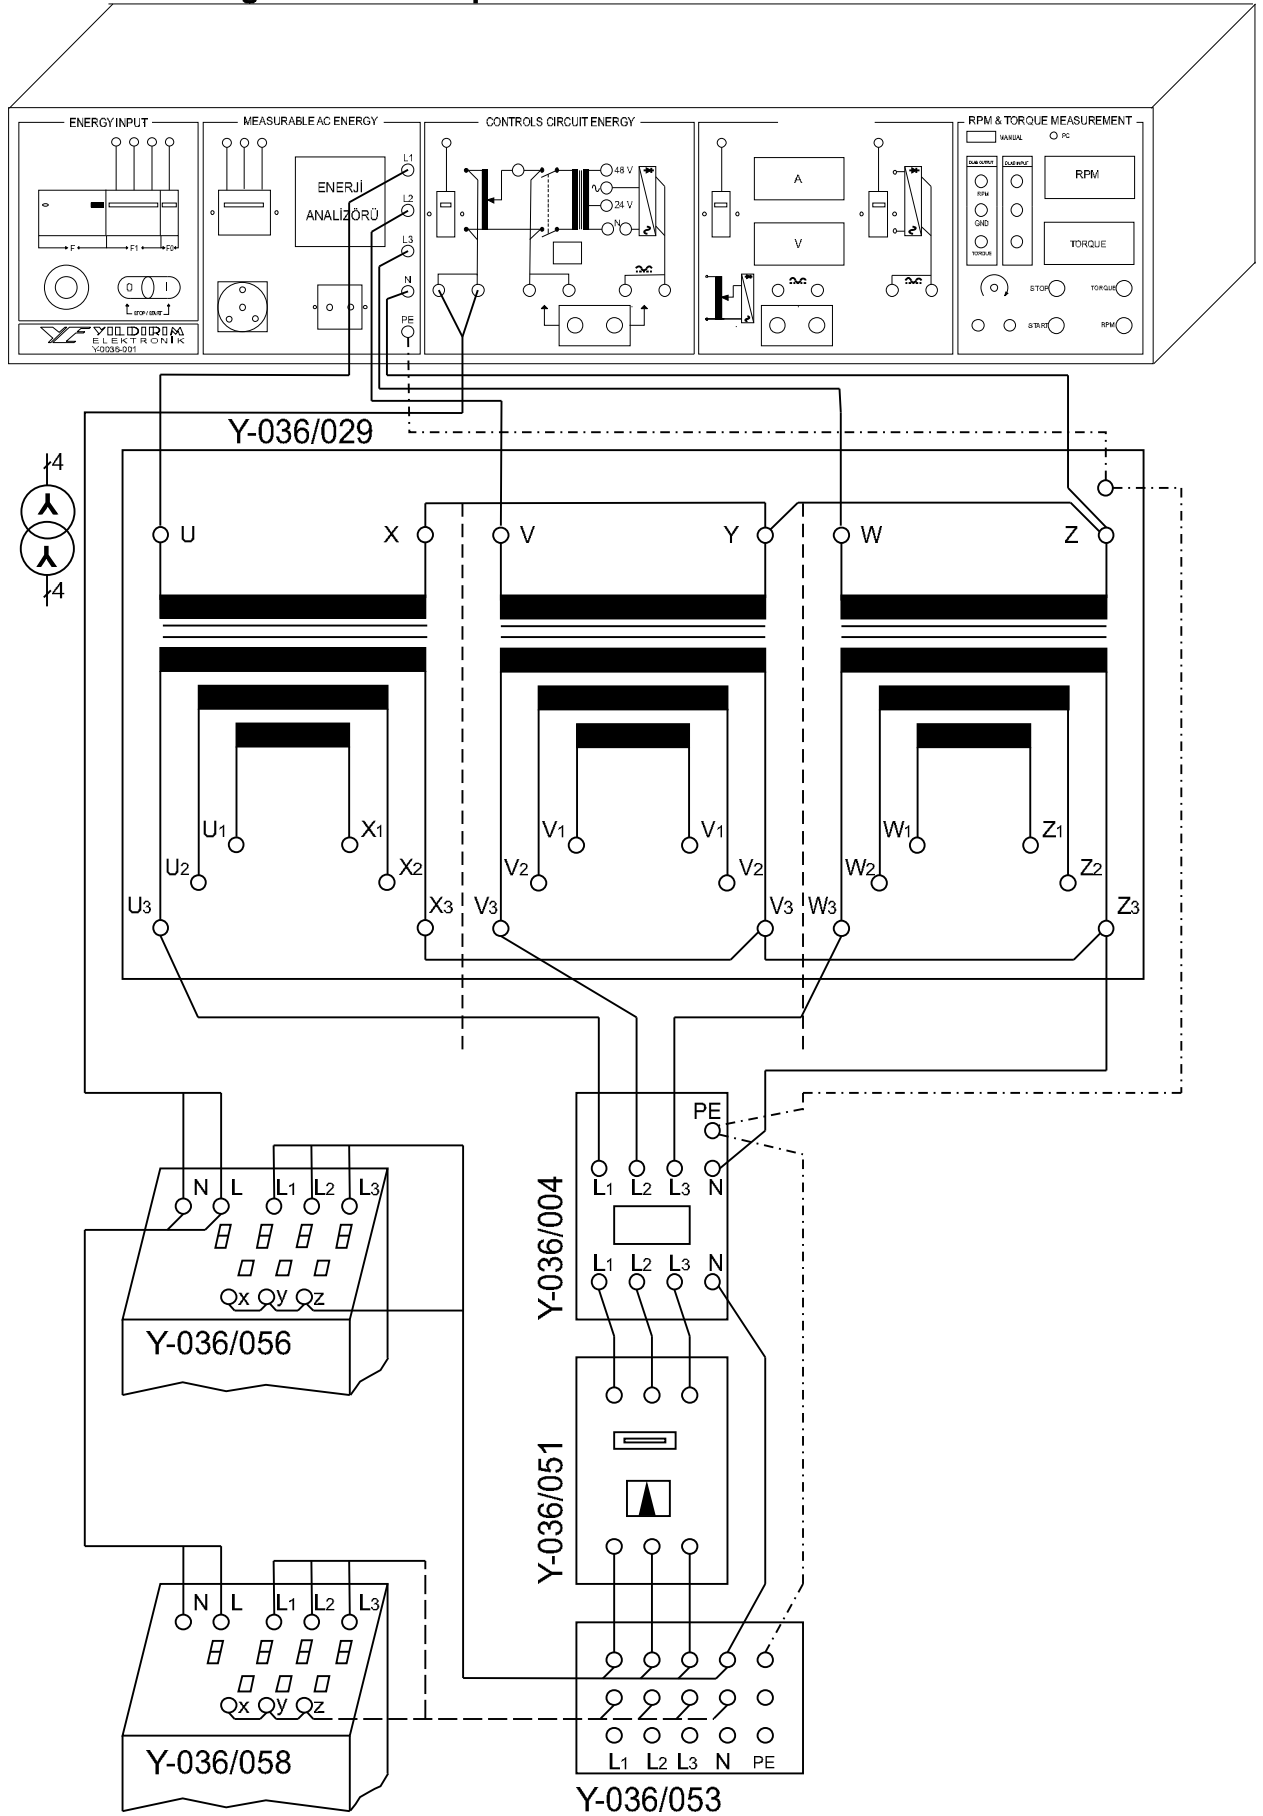

Figure 26.1 Connection diagram for the loaded operation of the tri-phase transformer.
- Connect the circuit shown in figure 26.1 and 26.2.